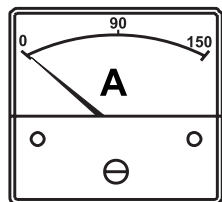

Figure 38. Ammeter (No Load)
13. The **AC ammeter** (Figure 38) will indicate **zero amps** with no load applied. When a load is applied, the ammeter will indicate the amount of current that the load is drawing from the generator.